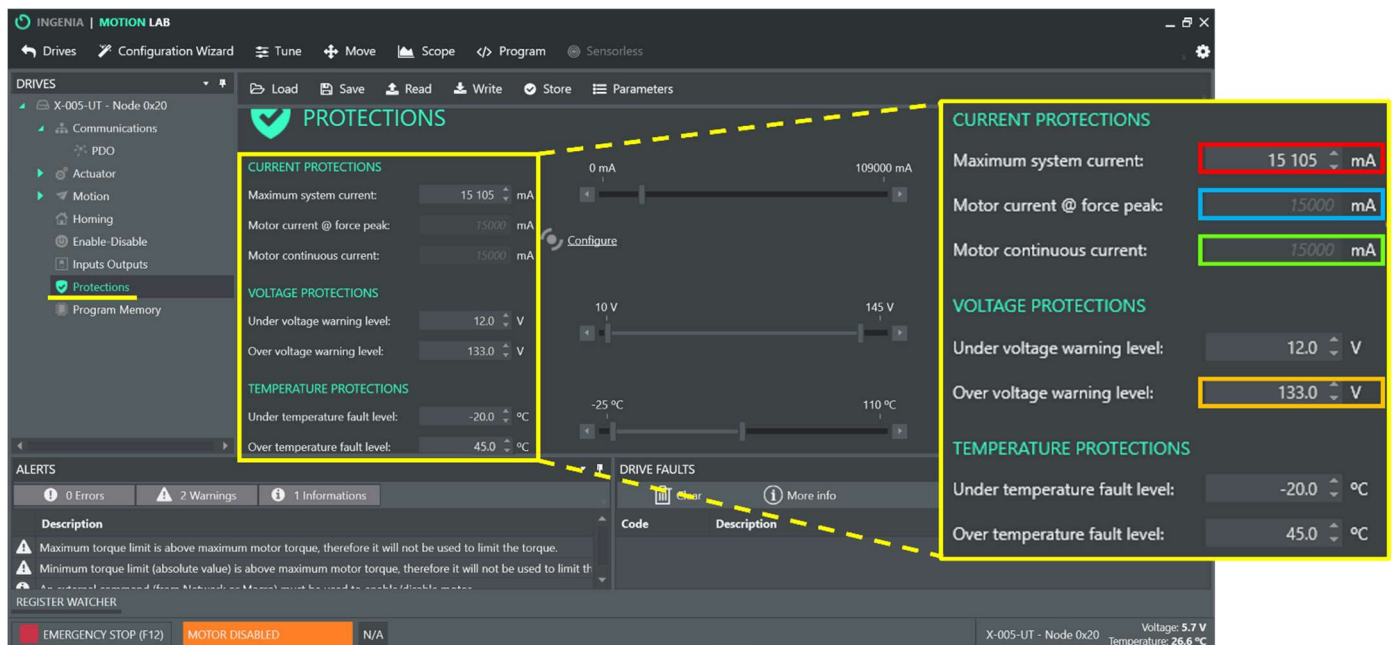
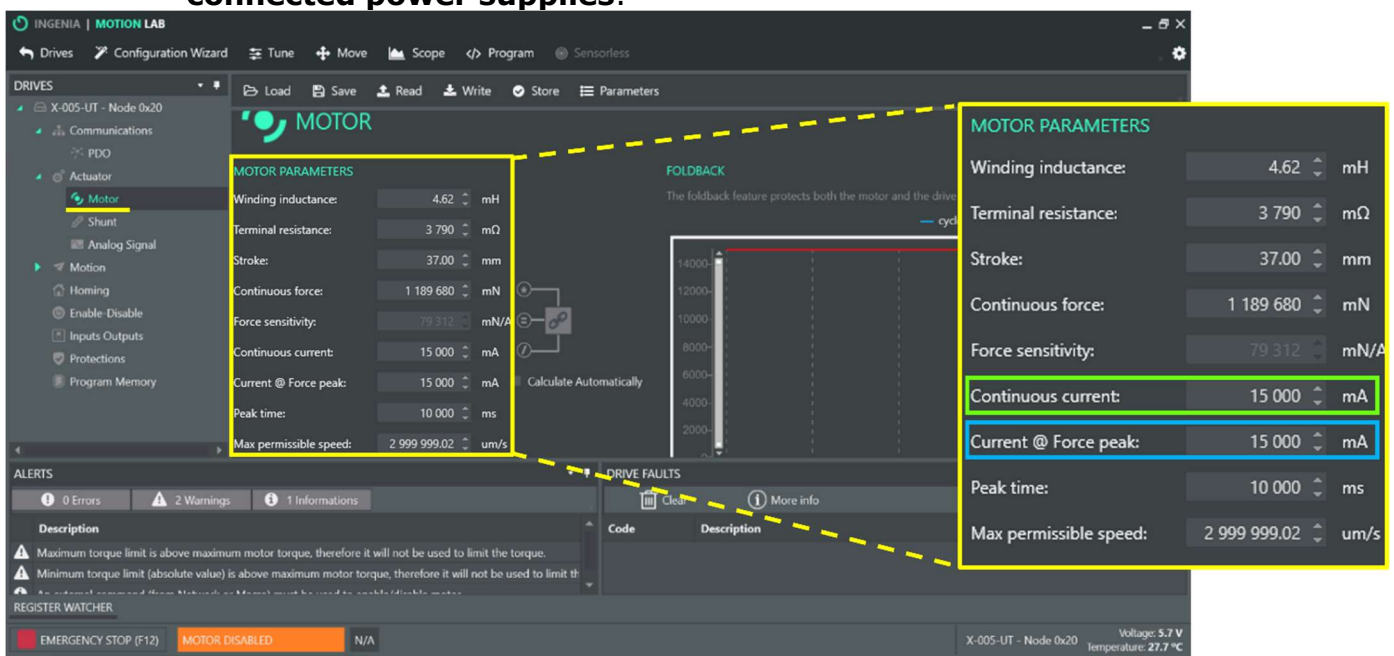

Fig. 28: Protections settings section (e.g., with a MEASSuRE-X).
Fig. 29: System motor parameters (e.g., with a MEASSuRE-X).
- 1) Maximum System Current: This parameter (red box in **Fig. 28**) regulates the maximum current that is drawn from the power supply (or supplies) and sent to the VCA. **While this parameter does not trigger a fault in MotionLab when the demanded current** (calculated from the torque demand data and force sensitivity under Motor Parameters) **exceeds this value, the applied (i.e., actual) current will be capped at this value.** This means that, for example, if the max system current parameter in MotionLab is set to 10A and the current limit on the power supplies' is set to 15A, the current supplied to the VCA will not exceed 10A.
- 2) Motor current @ force peak and Motor continuous current: These value (blue and green boxes in **Fig. 28**) cannot be changed here. The displayed values match the settings and can be changed under Motor Parameters (blue and green boxes in **Fig. 29**). These values are set based on the **power limitations of the MEASSuRE system's control drive (e.g., Jupiter vs. Pluto) and the connected power supplies**.
- 4) Over voltage warning level (OVWL): If the input voltage to the control drive is above this value, a fault will trigger, and the actuator will be disabled. This value (orange box in **Fig. 28**) is set depending on the **power limitations of the MEASSuRE system control drive (e.g., Jupiter vs. Pluto) and the connected power supplies**. For instance, if using a JUP-30/130-C drive and power supplies limited to 200V (as in MEASSuRE-X systems), the OVWL should be set to approximately 130V, which is the Jupiter drive's voltage limit. It is recommended to set the OVWL slightly larger than the actual hardware limit to account for brief voltage spikes that appear during very fast impulse stretches. Thus, for the MEASSuRE-X in this example, the OVWL should be set to 133V.